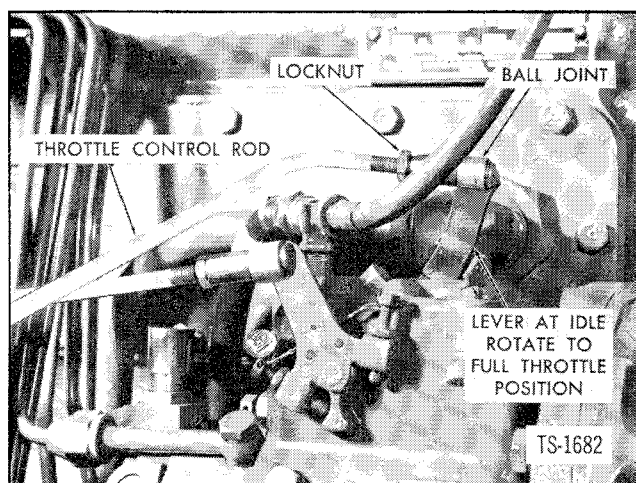

Fig. 37. Adjust Throttle Linkage (Waukesha Diesel)
1. Disconnect control rod ball joint from throttle lever. Refer to Figure 37.